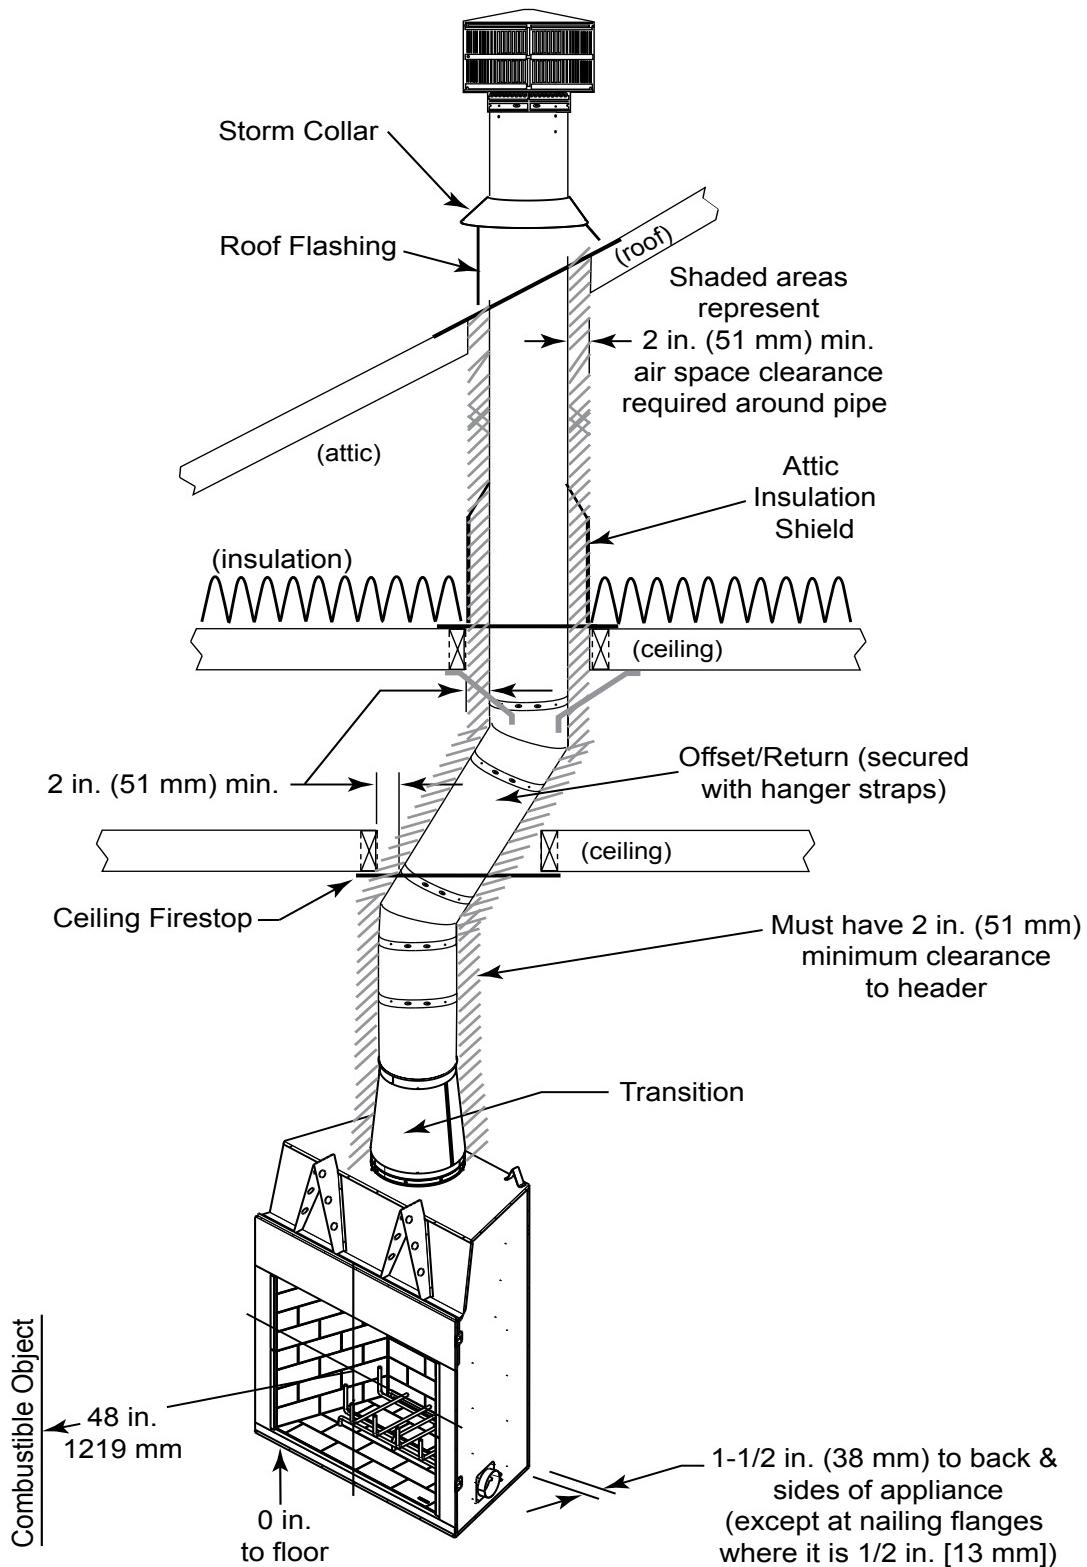

Figure 6.2 Air Space Clearances
**WARNING! Risk of Fire!** You must comply with all minimum air space clearances to combustibles as specified in Figure 6.2. **DO NOT** pack required air spaces with insulation or other materials.
- Observe all required air space clearances to combustible materials as shown in Figure 6.2.